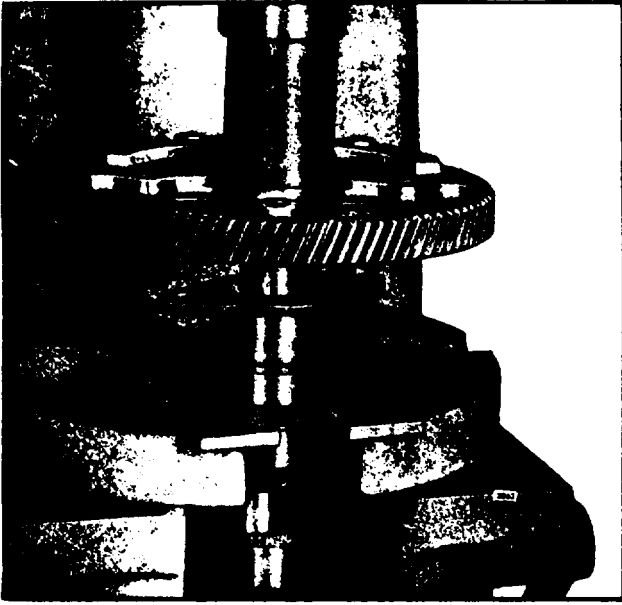

Fig. 2. - Installing Camshaft Gear
5. Then, with the camshaft supported in an arbor press, place a sleeve on top of the gear and under the ram of the press. Bring the ram of the press down on the sleeve and press the gear tight against the spacer on the shaft (Fig. 2.).